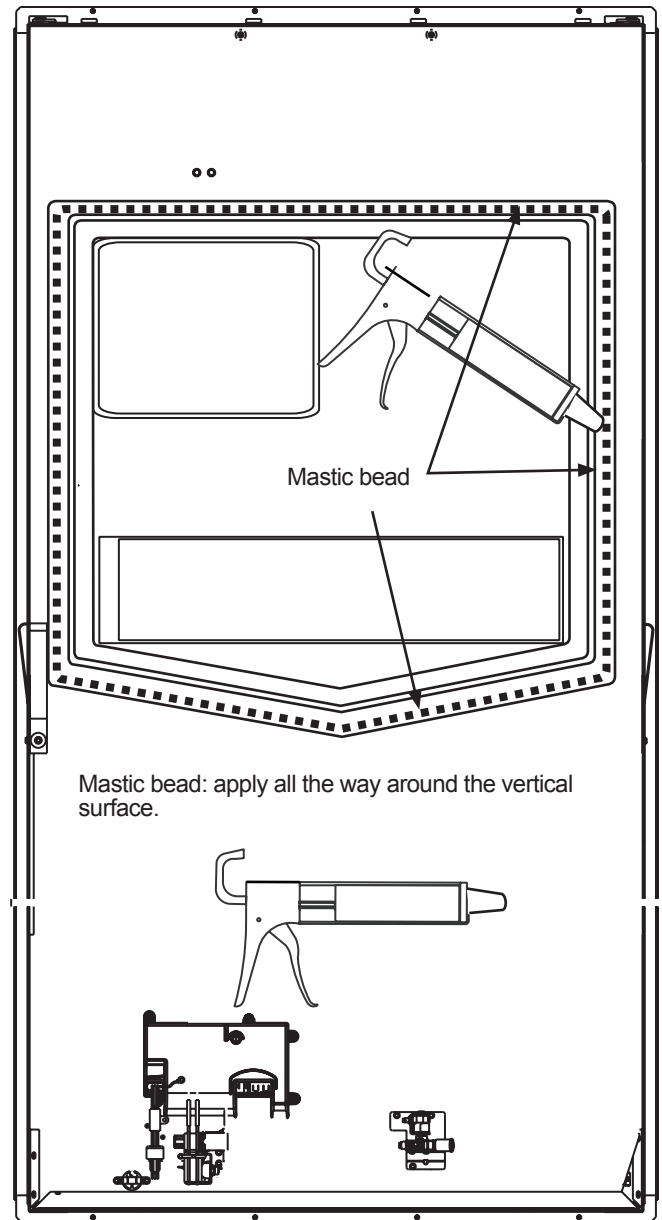

Figure 7-8. —Mastic application on cabinet opening.
2. Apply 3/4 inch wide x 1/2 inch thick bead of Thermal Mastic sealant on the four sides of the cabinet opening. See Figure 7-8, page 63.